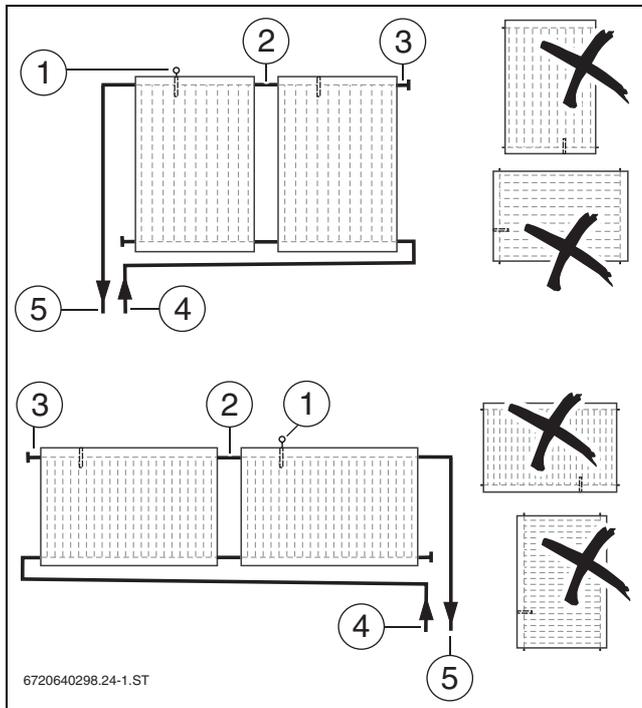

Fig. 21 Layout of portrait (top) and landscape (bottom) collectors
- ▶ Connect the collector array alternately (→ Fig. 21).
- ▶ When installing collectors, ensure that the sensor pocket for the collector sensor is located at the top (→ Fig. 21 [1]).
- ▶ Plan the routing of the collector sensor lead so that the collector sensor (→ Fig. 21 [1]) can be fitted to the collector to which the flow [5] has been attached.